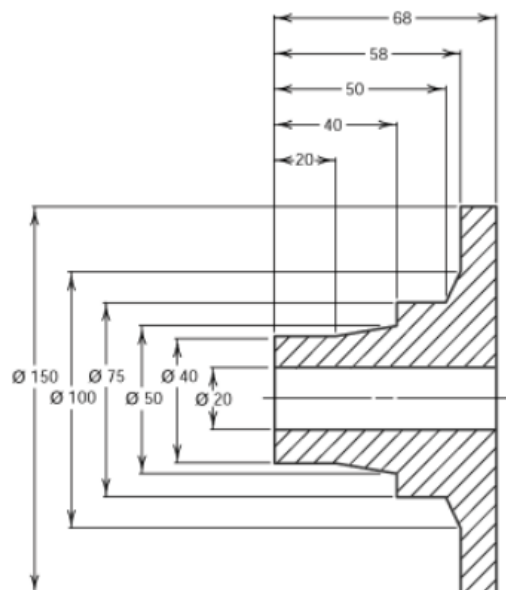

Fig.3.2 Dimensioning on Concentric circle
**Hint: 2. The following Fig.3.2 shows the type of dimensioning on concentric circles.**